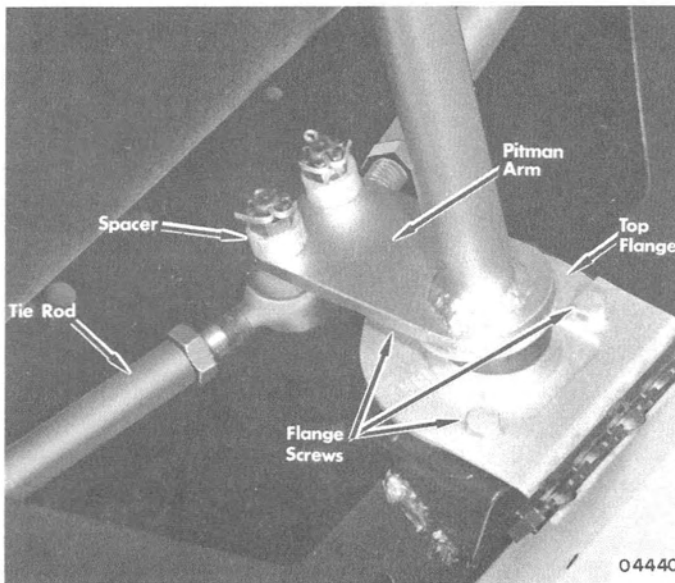

Figure 1. Lower Steering Support for 200-220-250, Rocket (339cc), Lightning (398cc), 440 MAX (438cc) and 440 S/R Models
2. Assemble steering arm and tie rod components and align skis as outlined in "Ski Alignment", preceding. (Figure 1, 2 or 3)